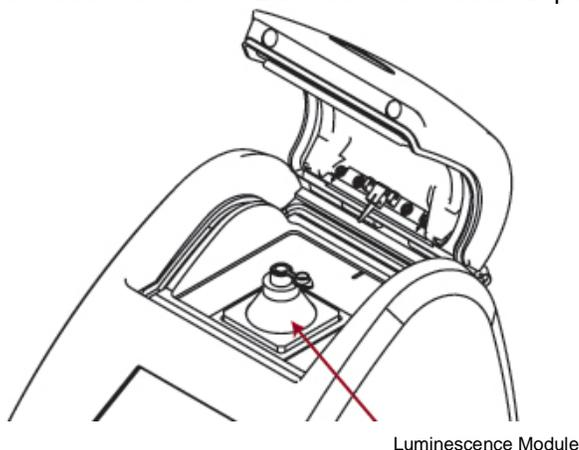

Figure 7
4. Press down to lock the Luminescence Module in place (See Figure 7).